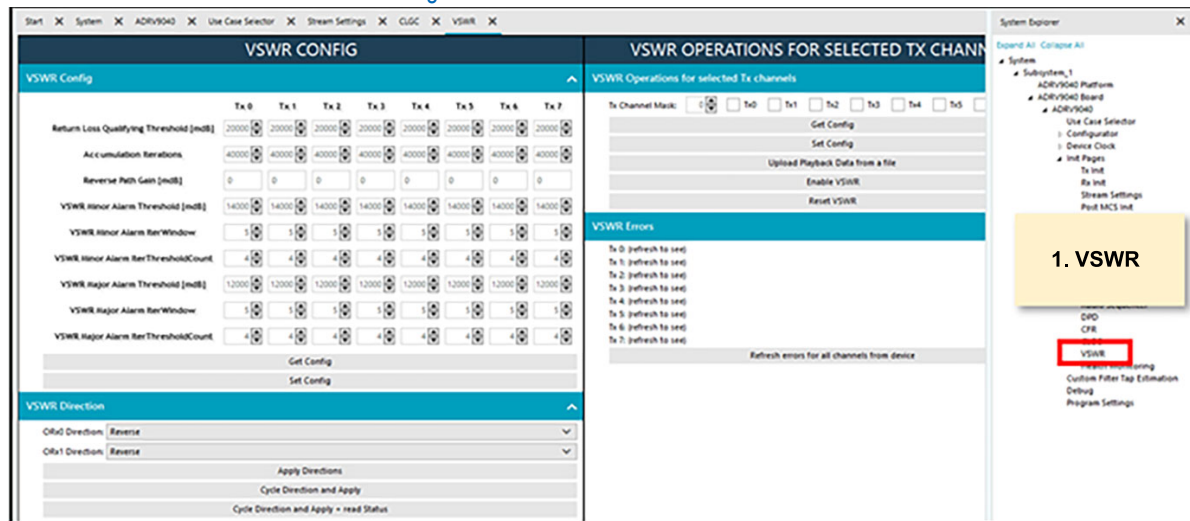

Figure 111. VSWR
1. VSWR is available under **Runtime** as shown in Figure 111.